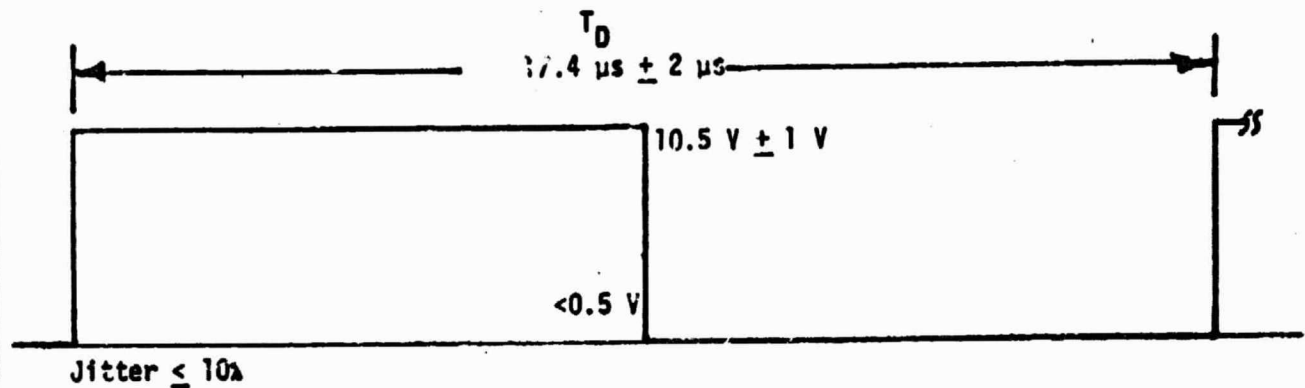

Figure 2. Sync Output
- \*3.6.1.5 Verify an output at U1-1 of 57,344 Hz  $\pm$  50 Hz per Figure 2.